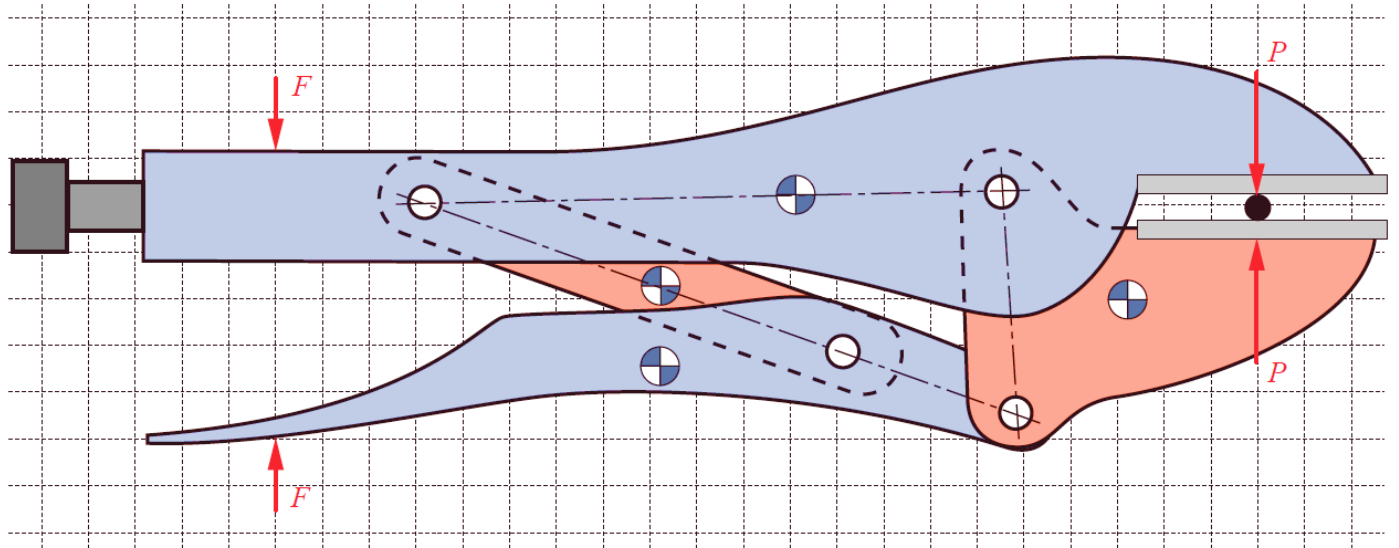

Figure 1 - Drawing of the Locking Plier - 0.5 cm grid
- What is the magnitude of the clamping force  $F$  required to fix the object at the position shown in Figure 1?